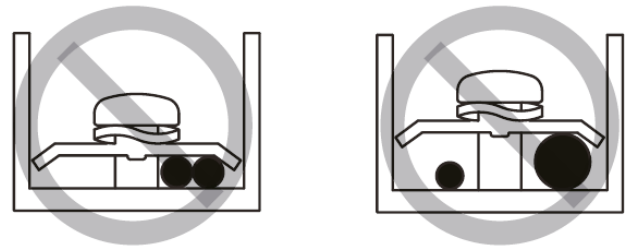

Figure 7.2
- Do not connect two power cords with different diameters to the same power supply terminal. Otherwise, the wires may overheat due to loose wiring (See Figure 7.2).